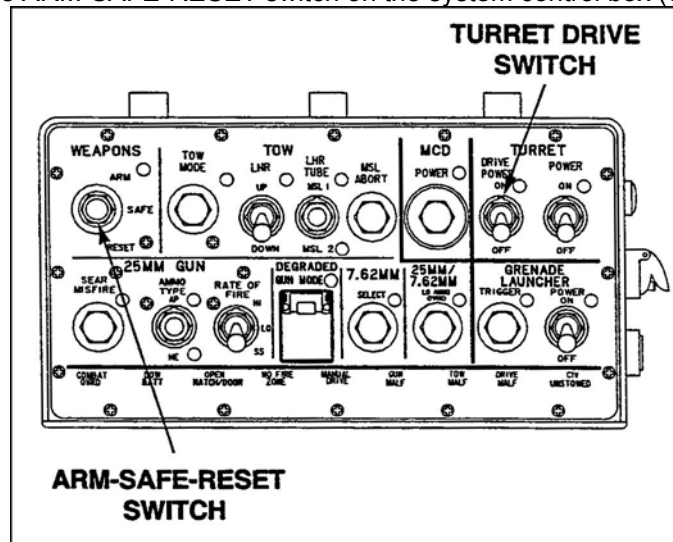

Figure 1. System control box (SCB) ARM-SAFE-RESET switch.
(1) Move the ARM-SAFE-RESET switch on the system control box (SCB) to SAFE (Figure 1).